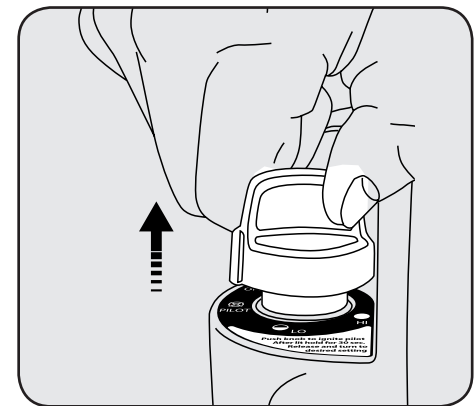

Figure 4
6. After pilot lights, hold down for 30-60 seconds and then release knob. Knob should return to fully extended position. See Figure 4.
8. After pilot lights, hold down for 30-60 seconds and then release knob. Knob should return to fully extended position. See Figure 4. The pilot should remain lit.